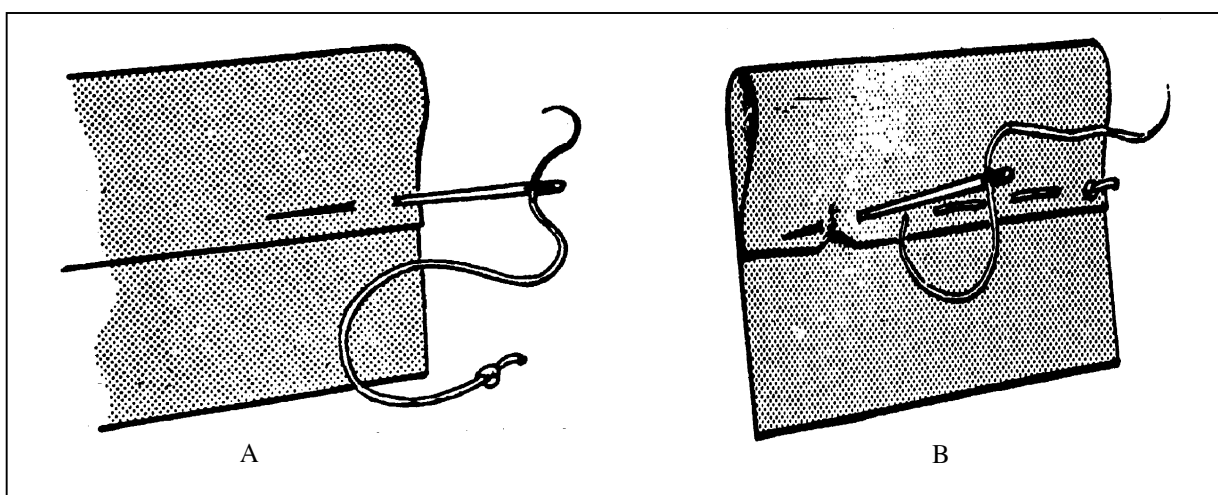

Figure 2-4. Basting stitch
a. **Basting Stitch.** The basting stitch (Figure 2-4) is very common in tailoring. Before any permanent stitches are put into a garment, a temporary stitch is put in to hold the material in position or to see if the garments will fit the individual properly. To make a row of basting stitches--
- (1) Thread the needle with a contrasting color of thread so the stitches will be easier to see and remove later.
- (2) Stick the needle through the cloth, and pull the thread through the cloth to the knot.
- (3) Stick the needle into the cloth, and weave the needle in and out of the cloth several times. Stitch alongside, instead of directly on, the line where the permanent stitches will be sewn. Make the stitches two or three times longer than running stitches.
- (4) Pick up as many stitches as possible before pulling the needle and thread through the cloth. Continue to stitch to the end of the row.
- (5) Make a knot in the thread close to the cloth, and cut off the remaining thread.
- (6) After the permanent stitch has been placed into the material, the basting stitch is then removed.
- (7) The length of the basting stitch depends on the work that has to be performed. If the stitch is placed on the collar of a jacket, many stitches are needed to hold the material in place, but on the legs of trousers when they are being hemmed, only a few are needed and they can be placed a reasonable distance apart.